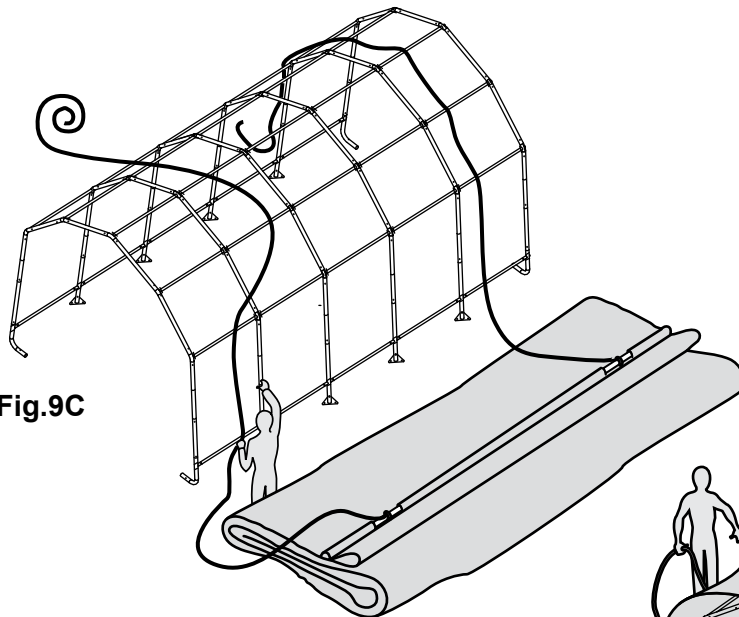

Fig.9C
C. Tie the rope on each of the exposed pipes and throw the other end of the rope over the frame. Fig. 9C.